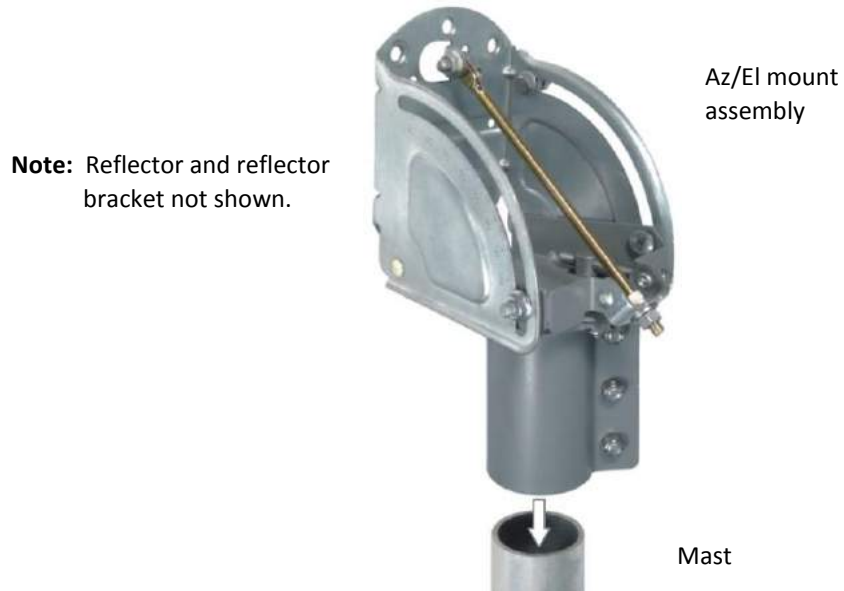

Figure 22: Installing the Az/EI mount assembly
2. Slide the antenna assembly down onto the mast so the Az/EI mount fits onto the mast as shown in Figure 22 on page 39.